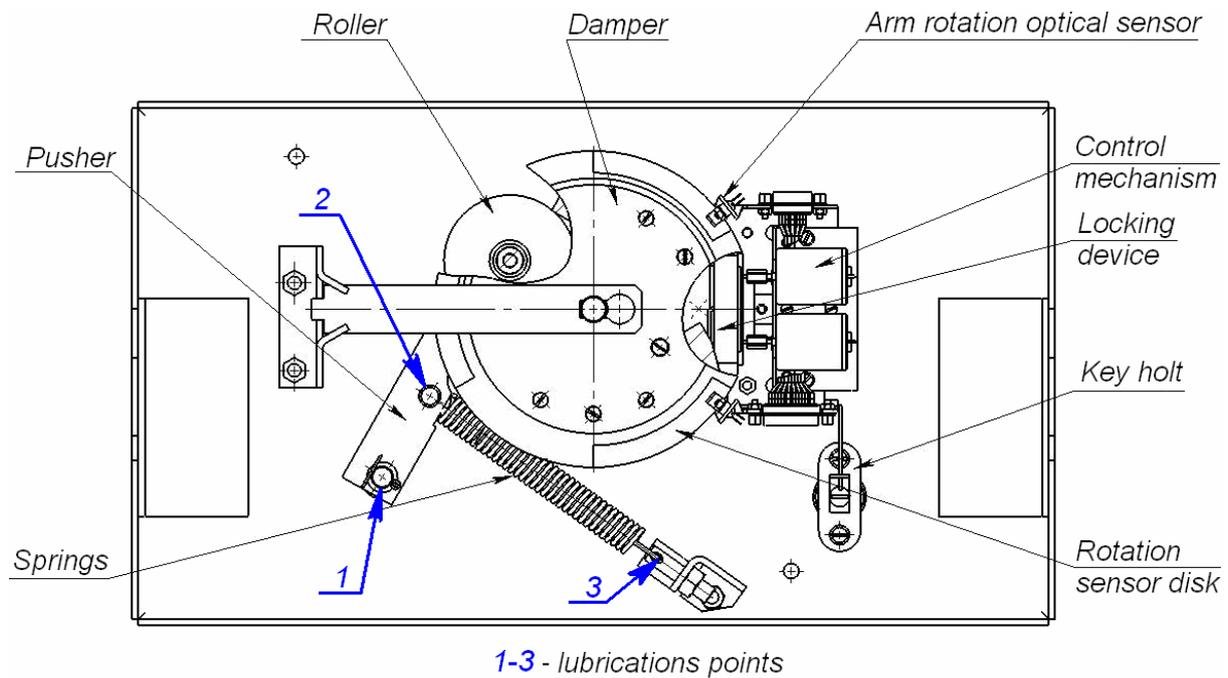

Figure 14. Arrangement of the components inside the IP-Stile housing
2. remove the cover (3) as described in section 6;
4. inspect the resetting device (the pusher, the springs and the roller), the optical rotation sensors for the barrier arms and the damper (ref. Figure 14);
- four bushes of the resetting device (two on the rotation axis of the pusher and two on the fastening axis of the spring), as well as the holes in the fastening parts of the springs: two-three oil drops into each lubrication point (the lubrication points are shown in Figure 14);